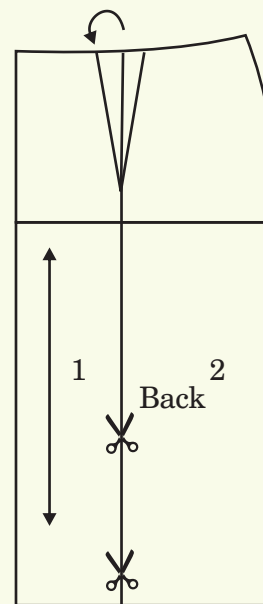

Fig. 2
1. Take a one dart skirt sloper and draw a slash line as illustrated (fig.2).